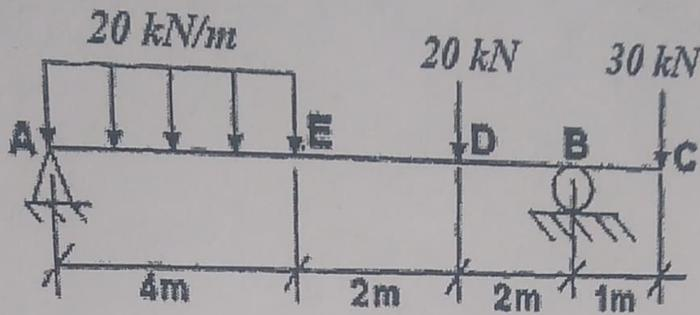

Fig.3
8. Draw shear force and bending moment diagrams for the beam loaded in Fig. 3. Label the salient points.